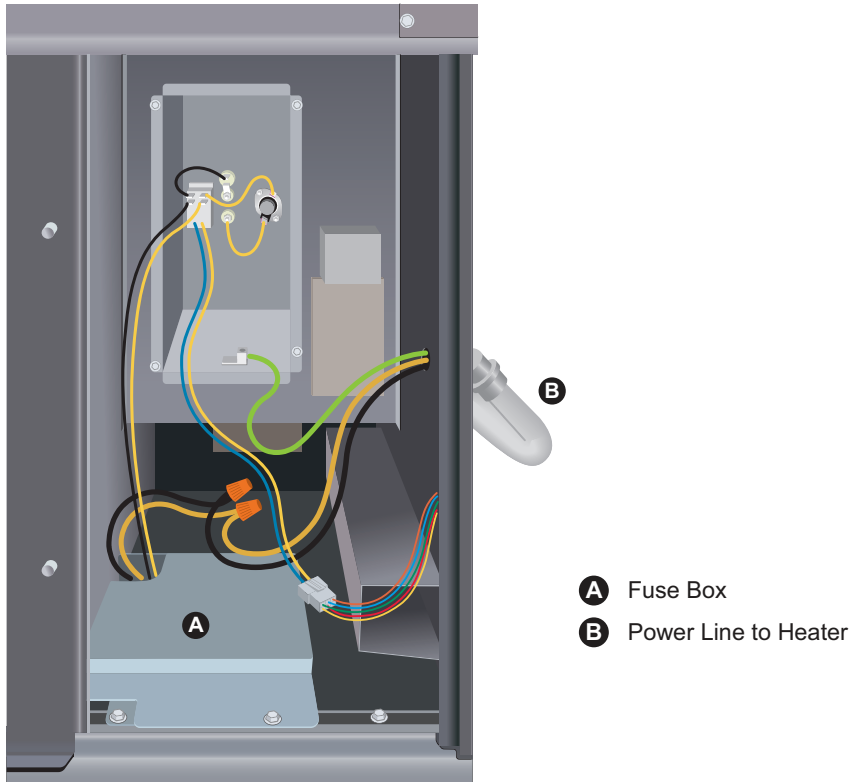

Fig. 6 - Single Point Connections for Fused Heater
4. Insert field power line through the electrical heater access panel hole (see Fig. 6 or 7) and connect to electric heater as shown in their respective wiring diagram. Fused electrical heaters field lines will be connected to the fuse block lugs (see Fig. 10) and non fused electric heater field lines will be connected to heater leads using wire nuts. Ground electrical equipment in the appropriate locations. Seal all openings to prevent air leaks.